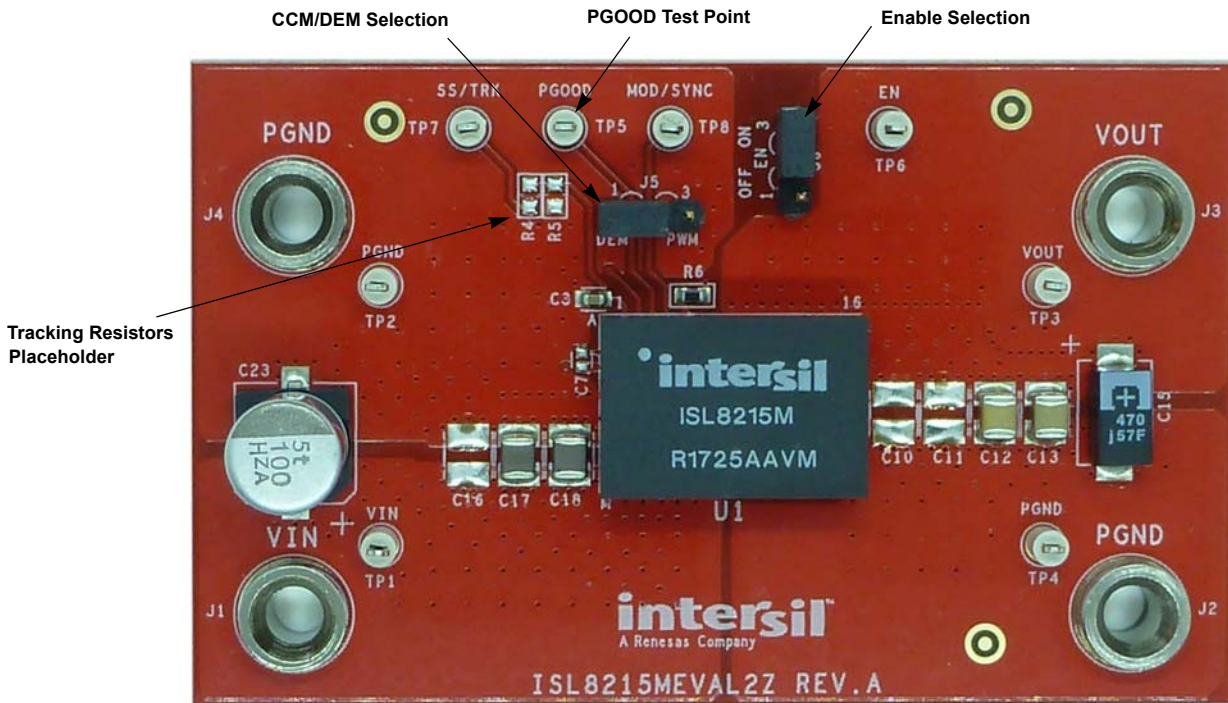
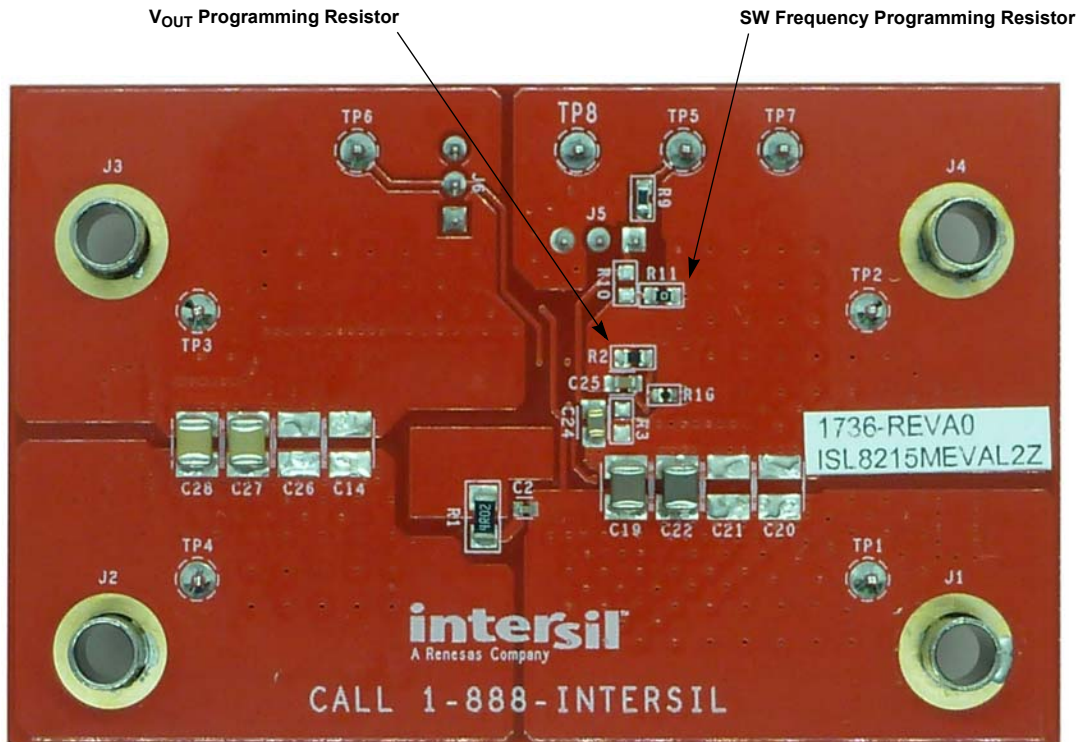

Figure 2. Top of Board
Figure 3. Bottom of Board
The ISL8215MEVAL2Z provides the peripheral circuitry to evaluate the feature set of the ISL8215M. The evaluation board includes several connectors, test points, and jumpers, that make validation of the module easy. The converter can be enabled and disabled by moving the jumper across the ENABLE pin as shown in Figure 2 on page 6. Connecting a jumper across the pins as shown in Figure 2 enables the PSM/DEM mode of operation, which can lead to higher efficiencies at light loads. Resistors R4 and R5 (Figure 2) can be used to evaluate the tracking functionality. Selecting features like external frequency synchronization can be performed by connecting the signal generator (square pulse waveform clock signal) to the MOD/SYNC pin. The output voltage (0.6V to 12V) and the switching frequency (300kHz to 2MHz) can be programmed by changing the resistors as shown in Figure 3 on page 6.
- (1) Disable the module by moving the jumper across the ENABLE pin as shown in Figure 2.
- (2) Use the appropriate cables to connect the DC input power supply to banana sockets J1 and J4 and the electronic load to sockets J3 and J2. Ensure that the polarity for the power leads is correct and the input voltage is within the operating range of the module (7V to 42V). Use test points TP1 (VIN) and TP2 (PGND) to accurately measure the input voltage.
- (3) Move the connector for the ENABLE pin to ON to enable the module. You can also remove the connector completely.
- (4) Turn on the input power supply.
- (5) Probe test points TP3 (VOUT) and TP4 (PGND) to observe the output voltage. The output voltage should read 3.3V.
- (6) Adjust the input voltage, V_{IN} , within the specified range and observe the output voltage. The output voltage variation should be within $\pm 1.5\%$.
- (7) Adjust the load current to within the specified range (0 to 15A) and observe the output voltage. The output voltage variation should be within $\pm 1.5\%$.
- (8) To change V_{OUT} , disconnect the evaluation board from the setup and populate a standard 0603 resistor at the R₂ placeholder location on the bottom layer. The “Output Voltage Resistor Settings” table in the ISL8215M datasheet can be used as a reference for programming different output voltages. Refer to the “ISL8215M Design Guide Matrix” table in the ISL8215M datasheet for correct input and output capacitors, switching frequency, and output voltage combinations.
- (9) To change the switching frequency, populate a standard 0603 resistor at the R₁₁ placeholder location on the bottom layer. Refer to “Equation 2” in the ISL8215M datasheet for selecting the correct value of R₁₁ within admissible operating range (300kHz - 2MHz).